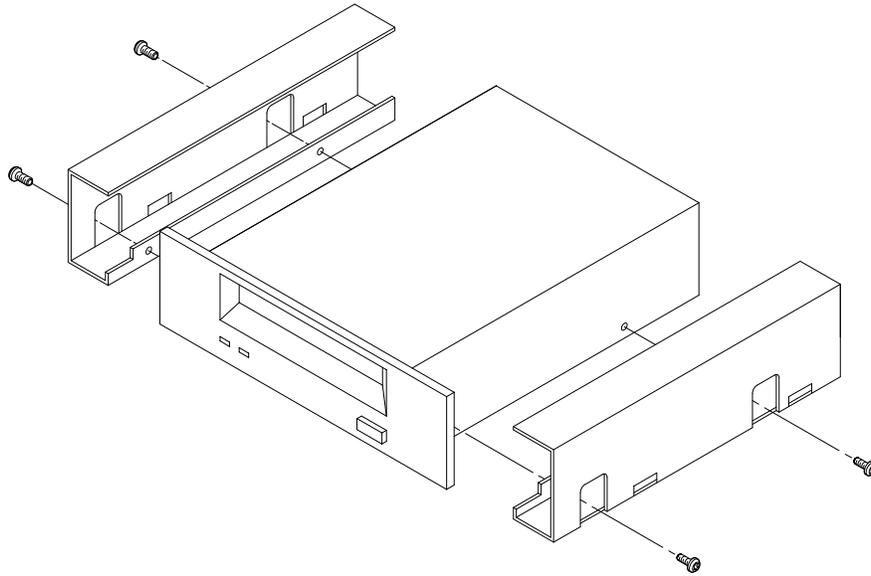

Figure 3-3. Adding or Removing Expansion Brackets
- To add or remove expansion brackets to the drive, use a T10 torx wrench to either tighten or remove the four torx screws that hold each expansion bracket to the drive. Refer to Figure 3-3.